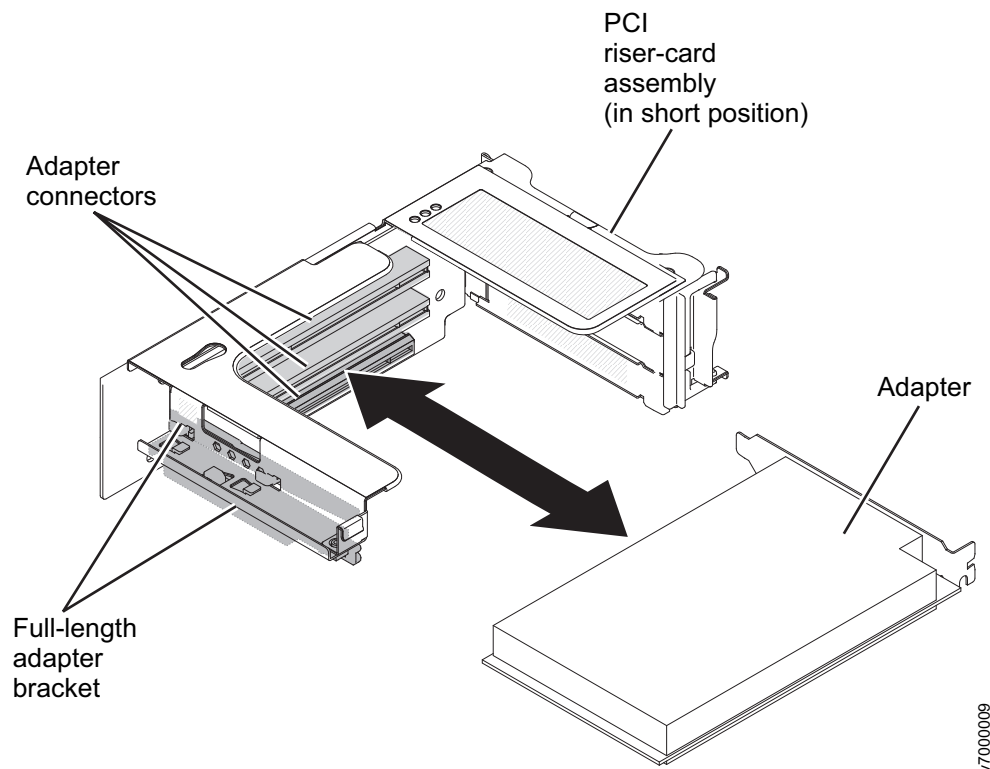

Figure 160. Inserting the adapter into the PCI connector
1. Install the adapter in the expansion slot, as shown in Figure 160 on page 189.